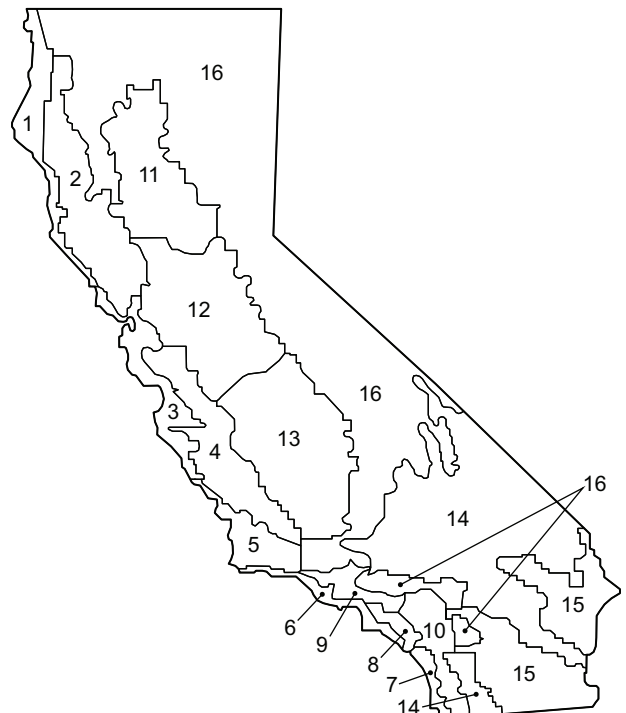

Fig. 81 — California Title 24 Zones
b. See Fig. 81 for map of California Title 24 zones.